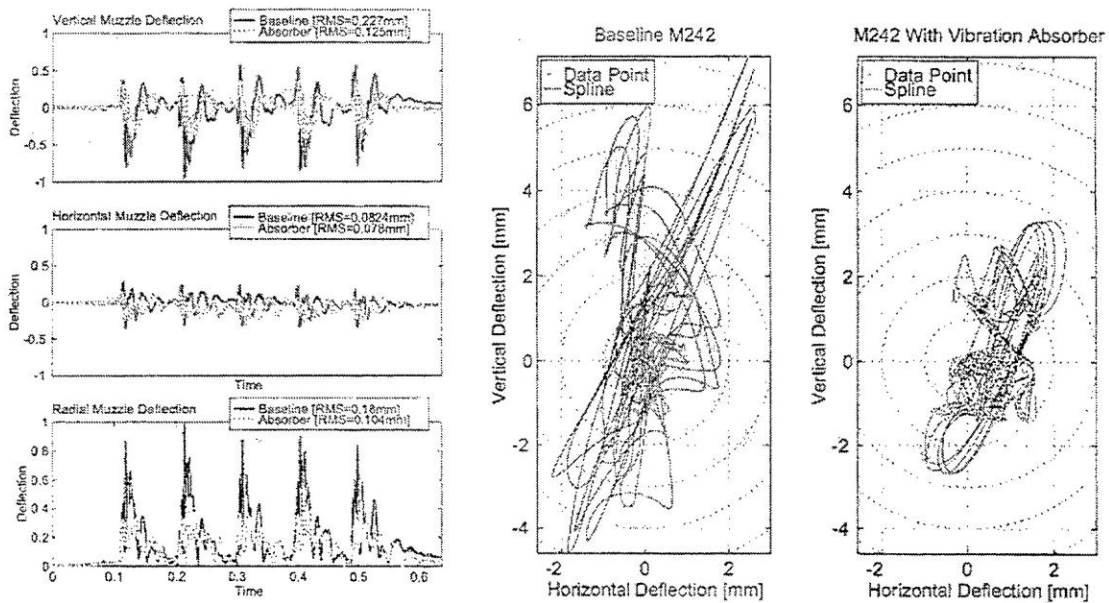

Figure 18. Firing results of the M242 with and without the vibration absorber.
Figure 18 shows the muzzle vibrations (left) and orbits (right) during five-round burst fire. The muzzle vibrations clearly show that the absorber reduces the magnitude of the vertical vibrations. Up to a 45% attenuation of vertical motion was seen. A better appreciation for the effects of the absorber can be seen in the orbit plots. From here, it is obvious that the absorber reduced the barrel vibrations by about half. The increased tightness and repeatability of the trajectories bodes well for increased performance over the baseline system. However, the effect of this reduced vibration on accuracy was not possible due to the short projectile flight in the Gun Dynamics Laboratory (ref 8).